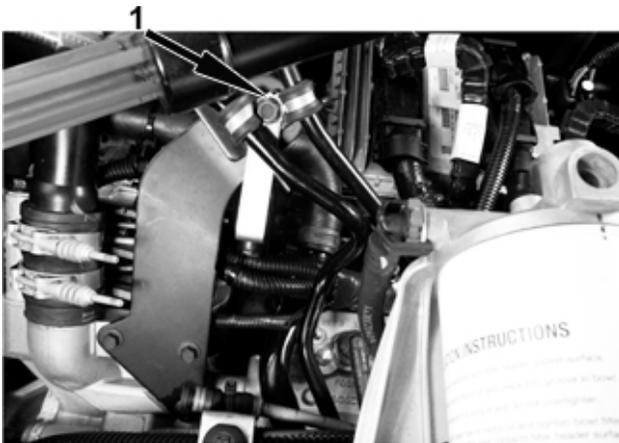
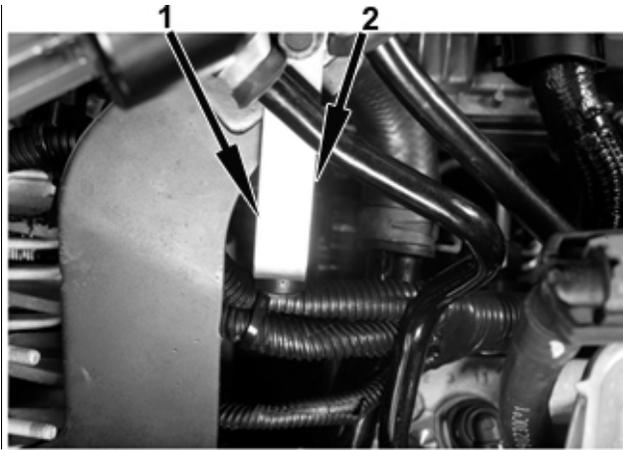

Figure 8
Figure 9
9. Attach extension stand-off (922860R1) to dipstick bracket by using same securing bolt that was originally in place (Figure 8). Make sure that extension stand-off is placed at same angle as shown (Figure 9).